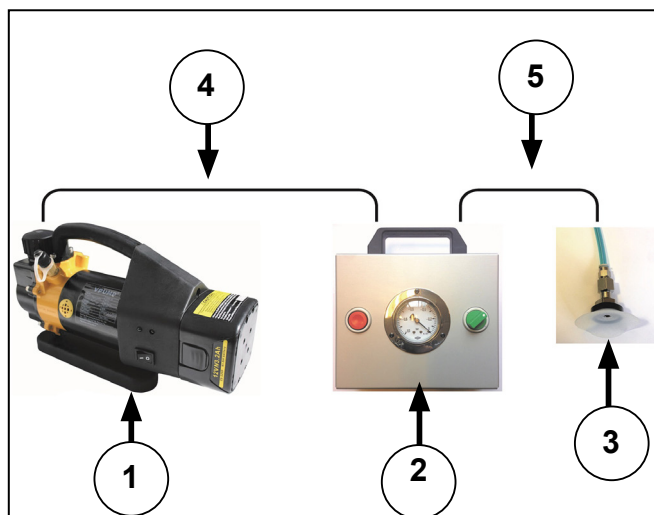
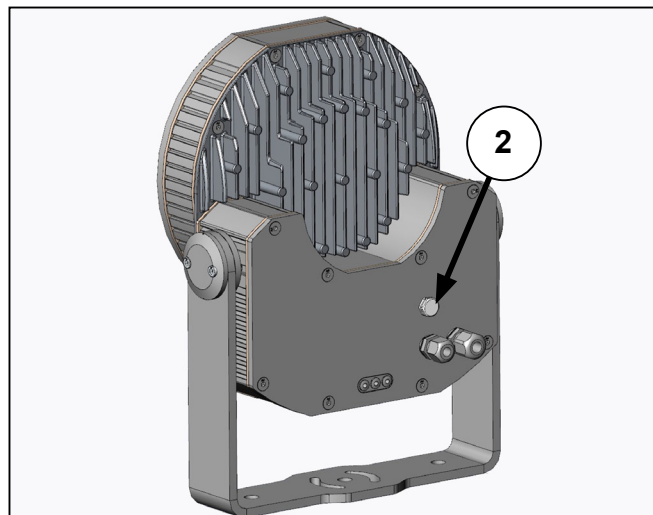

Figure 5: Test setup
Figure 7: Pressure relief valve on Exterior 400
This document concerns the products mentioned in figure 7.
1. Push the end of the hose (figure 5, 1) onto the correct pump adaptor for the product. See the table in "Pump adaptor" on page 3.
2. Locate the pressure relief valve (2) on the product and remove it.
5. Turn the green test/equalize button (figure 5, 3) to the TEST position.
6. Start the vacuum pump (figure 5, 4).
7. Press the red vacuum button (figure 5, 5) until the manometer (figure 5, 6) shows the correct vacuum level for the product. See the table in figure 7.
8. Release the red vacuum button (figure 5, 5).
9. Turn the green test/equalize button (figure 5, 3) gradually to the EQUALIZE position to allow air into the system.
10. Turn the green test/equalize button (figure 5, 3) back to the TEST position.
11. Press the red vacuum button (figure 5, 5) until you obtain the correct vacuum level.
12. Release the red vacuum button (figure 5, 5).
18. Turn off the vacuum pump (figure 5, 4).
19. Turn the green test/equalize button (figure 5, 3) to the TEST position and wait for the manometer (1) to return to zero.
NOTE! The pump adaptors are designed to prevent leaks when you test the product. However, you can save some time by using the suction cup (figure 5, 2) instead of the connectors. If the product is clean and there are no labels close to the hole of the pressure relief valve, place the suction cup over the hole and perform the test.